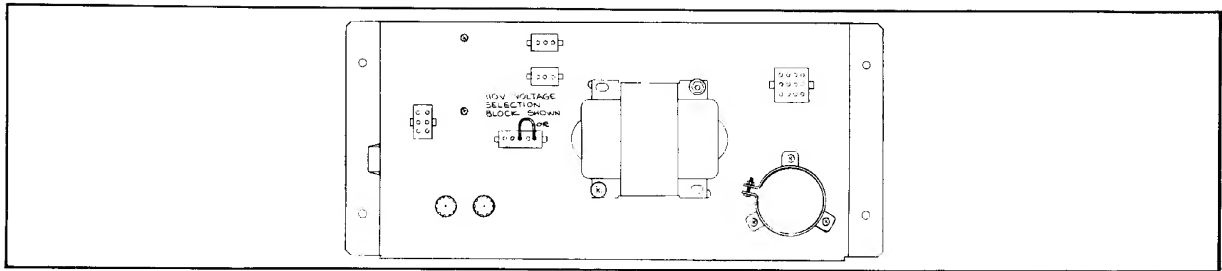

Figure 4 Voltage Selection Block
- 1) Look inside the gun mount cabinet and locate the power supply assembly that rests on the floor of the cabinet. Examine the voltage selection block that mounts on top of the assembly, as shown in Figure 4. Confirm that a voltage selection block is in place, and that it corresponds with the voltage present at the AC power wall outlet at the game site. (Normally an orange color-coded block will be in place, to correspond with a 110 VAC outlet. However, three other types of blocks are available to enable use with outlets providing 95 VAC, 205 VAC or 220 VAC, all single-phase.)
- 1) If the tape cartridge is to be changed, grasp the end of the cartridge presently in the Tape Deck and remove it by pulling straight out. Figure 4 shows the location of the Tape Deck inside the Gun Mount Cabinet.